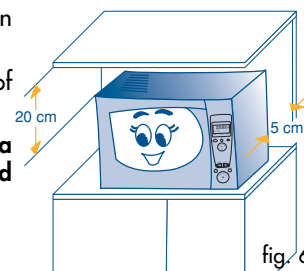

fig. 6
- 1) Remove the oven from its box. Remove the protective packaging containing the turntable (H), its support ring (I), and all the oven accessories. Check that the turntable spindle (D) engages correctly in its recess in the centre of the turntable.
- 5) When positioning the oven on the worktop, take care to maintain a gap of approx. 5 cm between the oven and the walls to its rear and sides, and a gap of at least 20 cm above the oven (fig. 6).